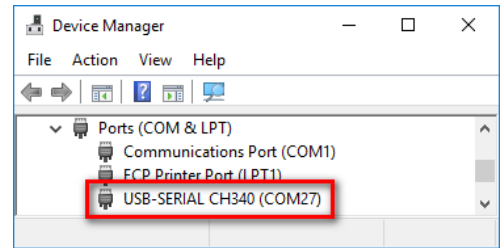

Fig. 1 Main screen
7. After running the software, it is required to choose „**Communication port**“ with the device (as shown on Fig. 1) **Port №**